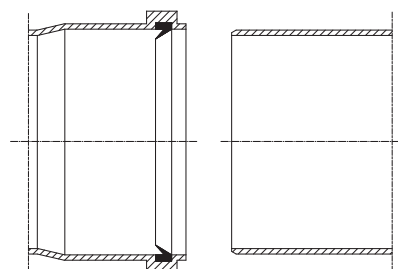

Fig. 3
- place the adapter (3) on the flange with sample points and the gasket in between (1) (*which does not require lubrication*), positioning it with the circular projections downwards in contact with the boiler flange and tighten using the 4 screws (2) in the kit;
• **Positioning the gaskets.** Before assembling the flue system, check that the gaskets are positioned correctly (Fig. 3). If component lubrication is not sufficient (applied previously by the manufacturer), remove the residual lubricant using a dry cloth, then grease the parts with the supplied lubricant in order to ease the push-fitting operations.